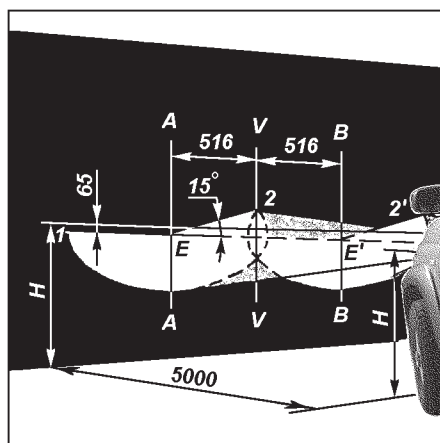

Fig. 9.32. Screen marking for headlights adjustment:
1. Park the motor vehicle, which should have a full fuel tank, its curb weight, normal tires pressure and loaded driver's seat (750 N/75 kgf), on an even level ground 5 meters far from the screen with special markings (Fig. 9.32).